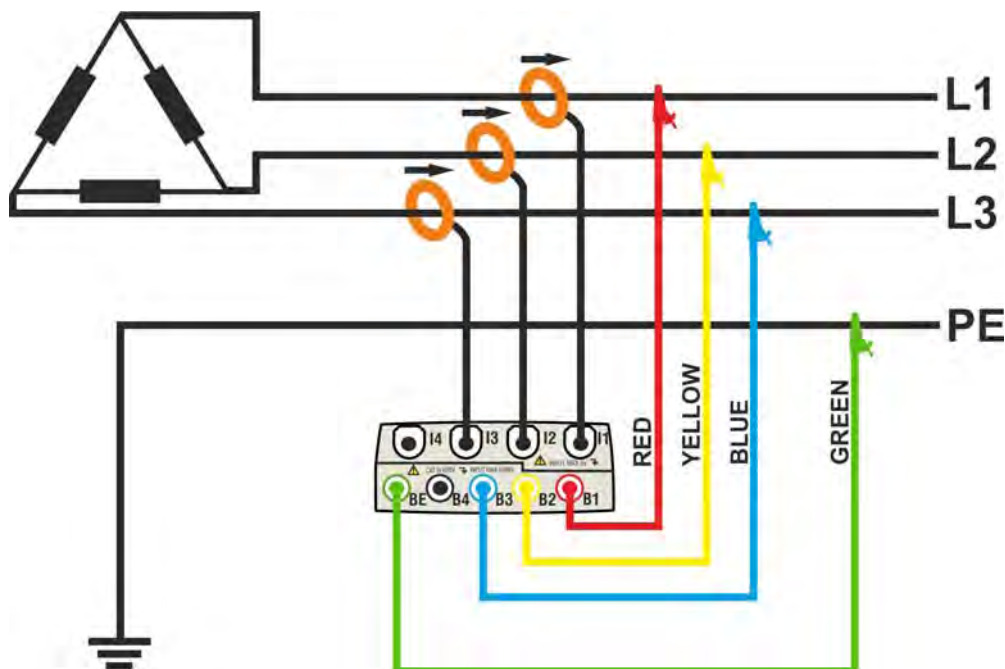

Fig. 137: Meter connection in a 3-phase ARON system – ENG_UK type
2. Connect voltage test leads on Phases L1, L2, L3, and Ground cables considering the colours as shown in Fig. 137. **Verify the result “123” at display relative to a correct phase sequence indication** (see § 5.2.1) and perform the corrections if necessary.
3. Connect the transducer current clamps on Phase L1, L2, L3 cables as shown in Fig. 137 respecting the clamp's arrow direction indicating the current standard sequence from generator to load. **On Real Time Values' section screens (selecting a 3 wire system preliminarily) always verify the positive value of Active Power and the power factor relative to load which should be normally inductive** before starting a recording. Reverse the clamp by 180 degrees on cables in case of negative readings.